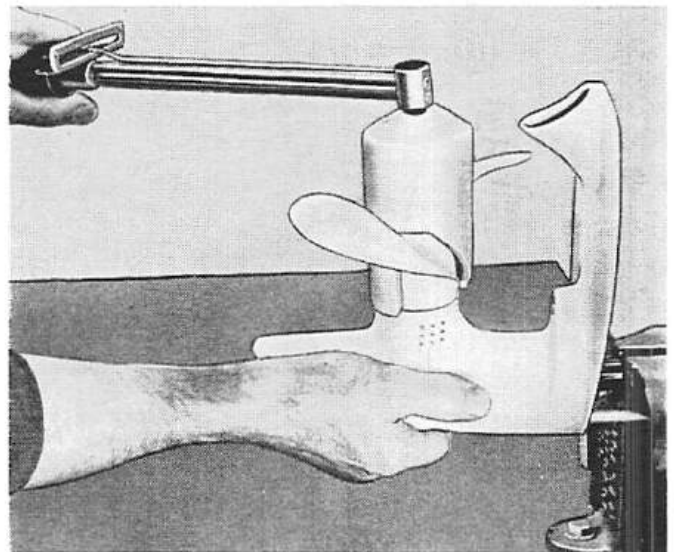

Figure 13. Torquing Propeller and Nut
22. Tighten nut securely with wrench and torque with Torque Tool (C-91-25666) to 170-to-240 in. lbs. (31.2-to-42.6kg/cm). (Refer to Torque Specification Chart in Miscellaneous Section VIII.) When checking propeller torque, hold clutch drum tight in vise. Use jaw shields or blocks of soft wood in vise so that shaft is not scored. (Figure 13)